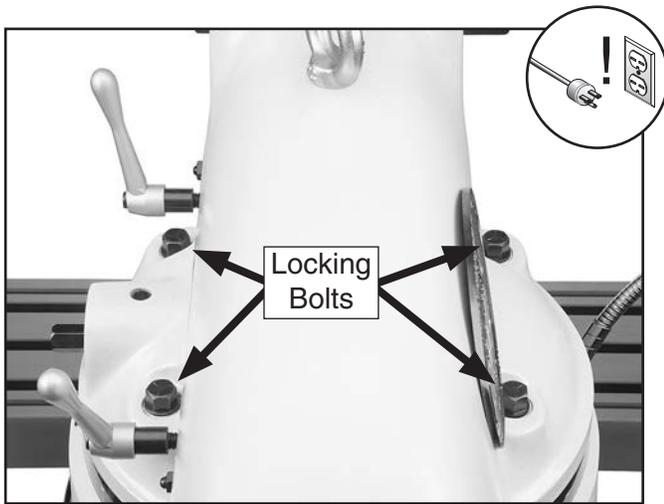

Figure 31. Ram rotation locking bolts.
2. Loosen the four rotation locking bolts on top of the column shown in **Figure 31**.